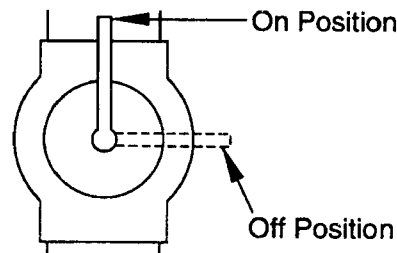

Figure 18 - Equipment Shutoff Valve
4. Turn equipment shutoff valve clockwise ↻ to OFF position (see Figure 18).
5. Wait five (5) minutes to clear out any gas. Then smell for gas, including near the floor. If you smell gas, **STOP!** Follow "B" in the safety information, column 1. If you don't smell gas, go to next step.
6. Turn equipment shutoff valve counterclockwise ↺ to ON position (See Figure 18).